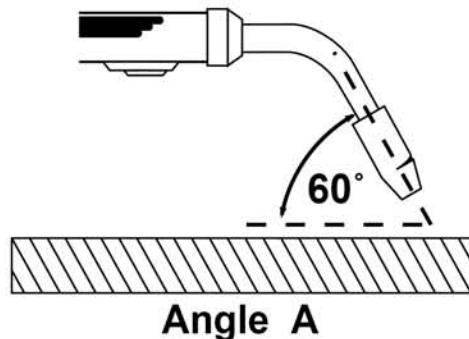

Figure 4. Gun Position, Angle A
1. Angle A (Figure 4) can be varied, but in most cases the optimum angle will be 60 degrees. The point at which the gun handle is parallel to the work piece. If angle A is increased, penetration will increase.